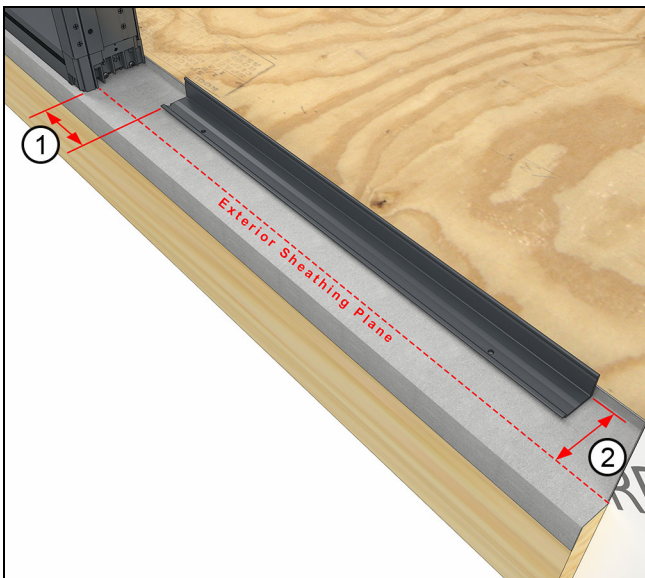

Figure 234
15. If the second unit you are installing is a door, measure 5 15/16 (151) from the first frame and install a sill support bracket. See Figure 234.